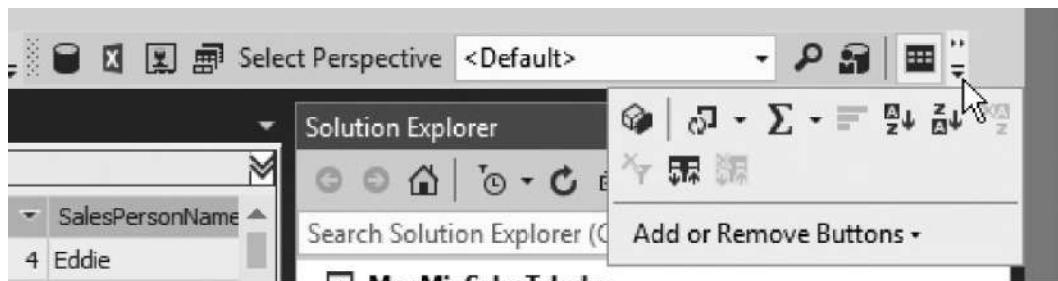

Figure 9-12 Locating additional Analysis Services toolbar options
3. Click the sigma (Σ) in the toolbar. Depending on the resolution of your monitor, the sigma may not be visible in the toolbar. You may need to use the drop-down arrow at the end of the toolbar, as shown in Figure 9-12, to find the sigma toolbar button. This creates a measure in the Measure Grid at